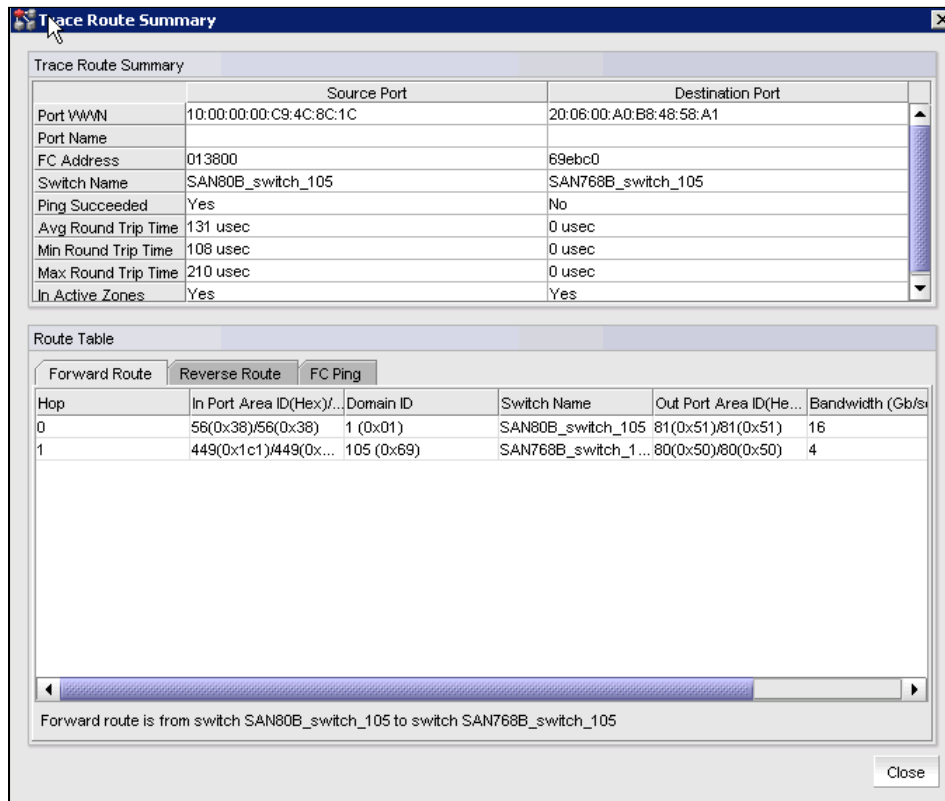

Figure 17-35 Trace Route Summary dialog box
3. The Trace Route Summary dialog box displays Figure 17-35 with the following information about the different tabs: